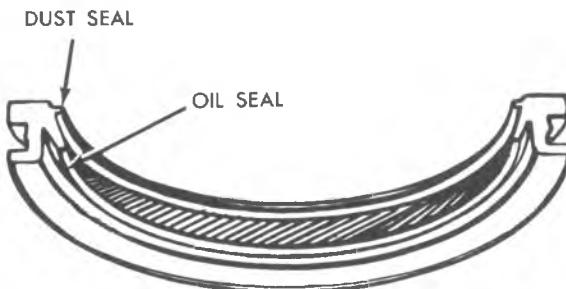

Fig. 14V—Crankshaft Oil Seal (Rear Main)
- NOTE: Make sure that oil-seal lip is positioned toward front of engine (fig. 14V).